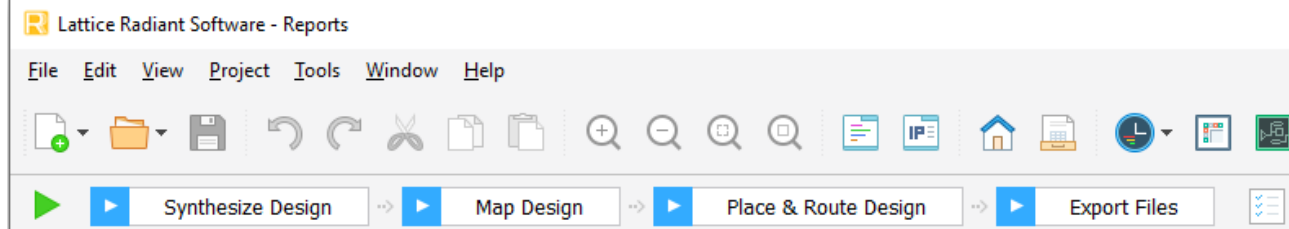

Figure 8.2. Radiant Software – Process Toolbar initial state
4. In the **Process Toolbar**, click **Run All** button , as shown in Figure 8.2.